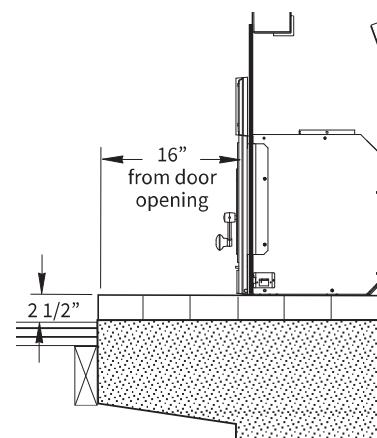

Figure 61. Minimum raised hearth requirement. Riser Bar not required.
- Clearance (open space) must be maintained between the fireplace insert and combustible materials located above and to the side. See figure 61 for minimum dimensions.
Clearances are measured from the hearth surface, glass, or centerline as noted in Fig. 61.